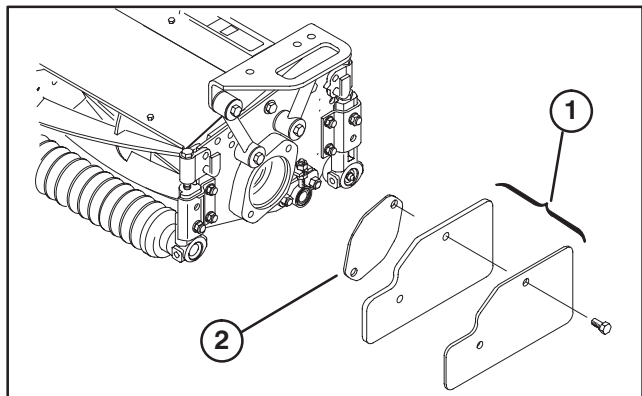
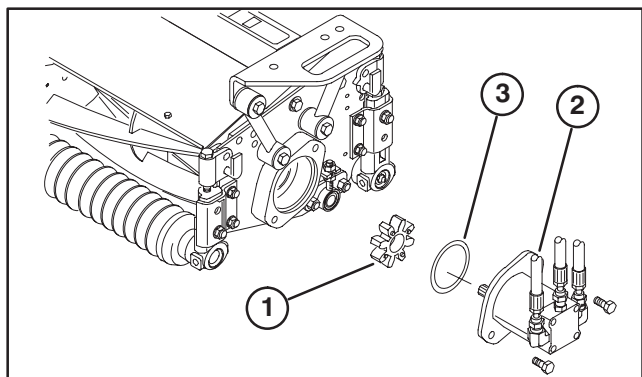

Figure 22
Figure 23
(Fig. 22 & 23)
2. Remove weights and gasket (Fig. 22) from inside end of right hand cutting unit. Remove plug from bearing housing on outside end of right hand cutting unit and install weights and gasket. Locate spider coupling (Fig. 23) shipped in bearing housing.